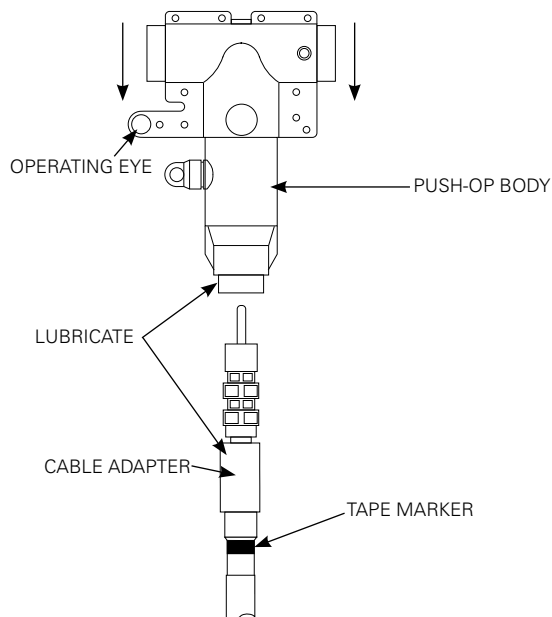

Figure 12. Line illustration of PUSH-OP Body installation.
- Slide PUSH-OP body onto cable until compression connector eye is centered between 600 A interfaces. (Refer to Figure 12.)